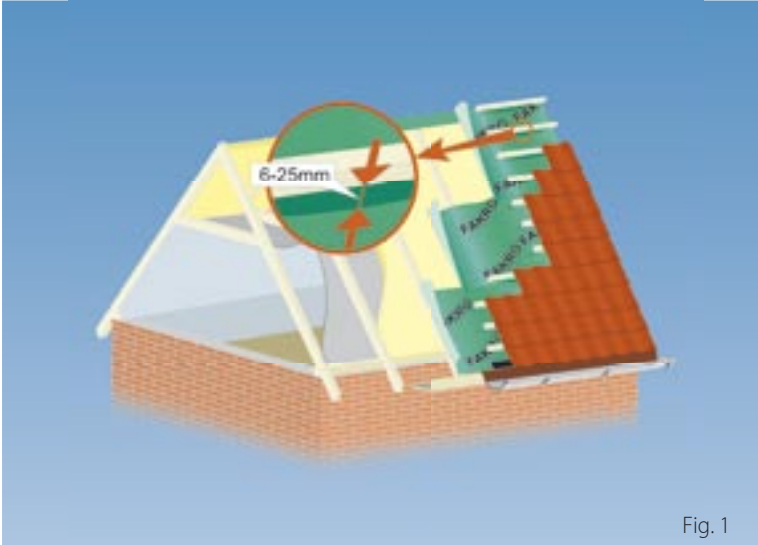

Fig. 1
2. Membrane to be draped without counterbattens (drape between 6 to 25 mm). (Fig. 1)